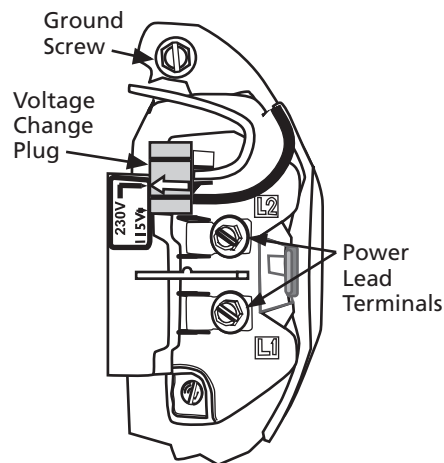

Figure 3 – Voltage set to 230 volts, Plug Type
2. Pull the plug straight up (See Figure 3).